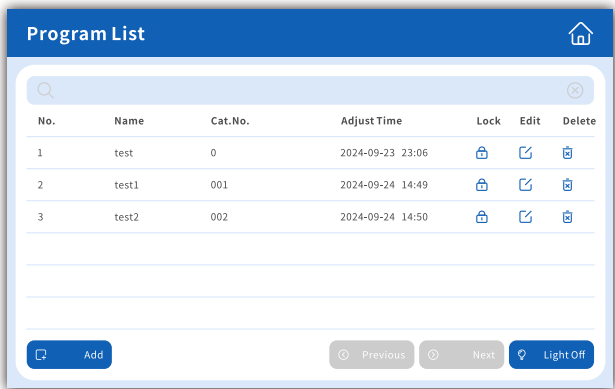

Figure 3
01.Click the “Program List” button on the main interface to access the program list (Refer to Figure 3).